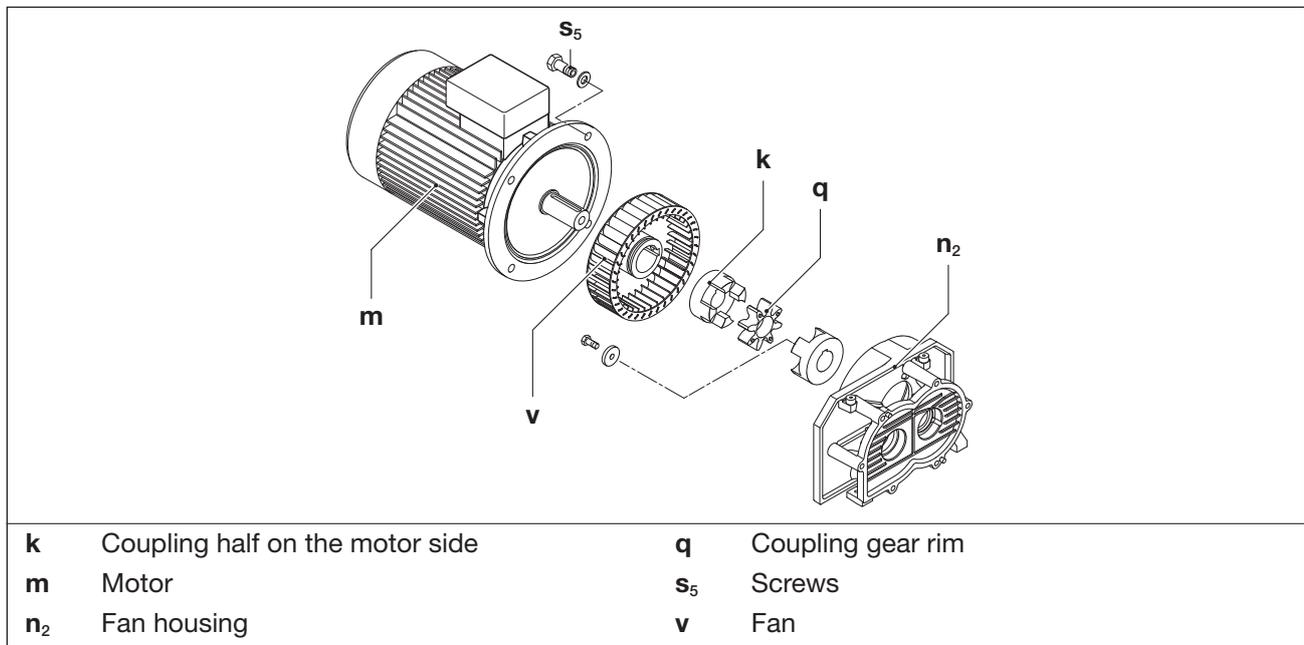

Fig. 8 Coupling
The coupling sprocket (Fig. 8/q) is subject to wear and must be checked regularly (at least 1 x per year). The fan (Fig. 8/v) should also be checked for damage from time to time.
- b) Hang the motor (Fig. 8/m) in the transportation lashing using a hoisting gear.
- c) Release the screws (Fig. 8/s₅) on the motor flange and axially pull the motor with the half of the coupling on the motor side (Fig. 8/k) off the fan housing (Fig. 8/n₂).
- d) Check the sprocket (Fig. 8/q). If the sprocket is damaged or worn, replace it.
- e) Check the fan (Fig. 8/v) and replace it, if necessary.
- f) Axially push on the gear rim and motor with coupling half on the motor side again and fix to the motor flange using the screws (Fig. 8/s₅).